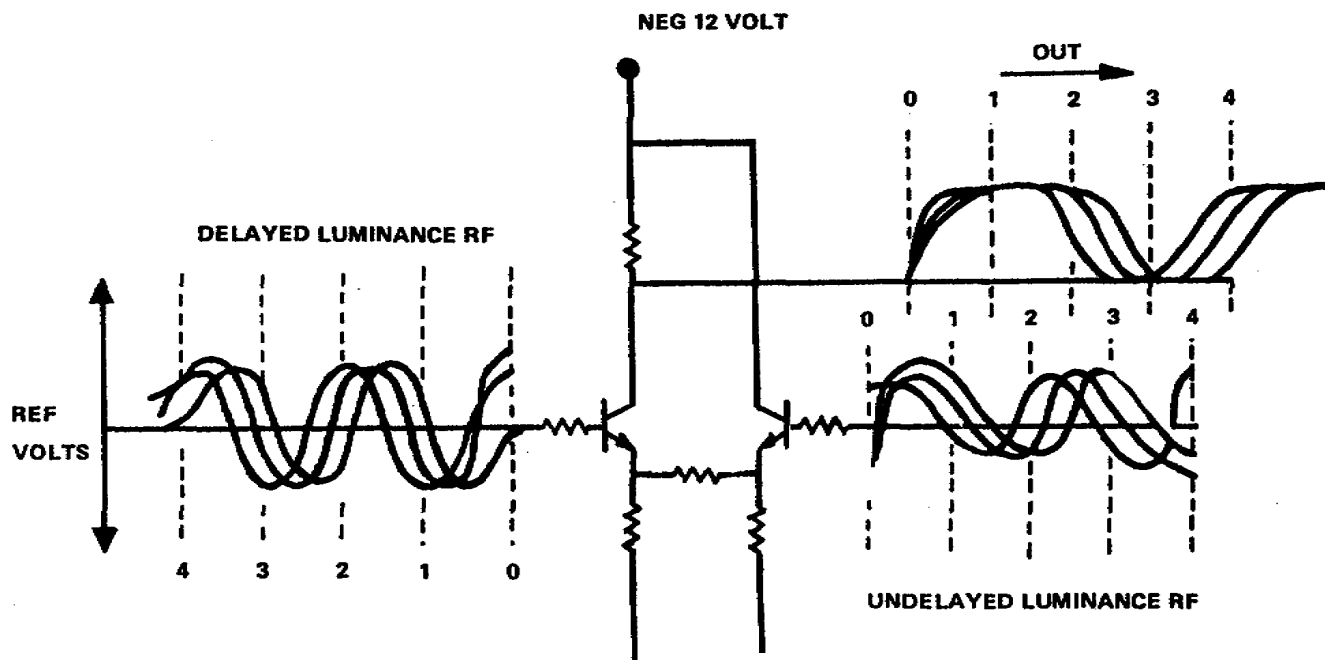

Figure 4-1. Cosine equalizer
1. Refer to Figure 3-4 (fo) at end of lessons. The output of Y-RF OUT BUFFER Q7 (PS-10 Board) is applied to a cosine equalizer circuit on the HF-3 board (fig 4-1). The incoming Y-RF signal is buffered by transistor Q1 and follows two paths, one to the base of Q2 with a delay of 60 nanoseconds and the other undelayed path to the base of Q3. Q2 and Q3 form a differential amplifier that compares the delayed luminance RF with the undelayed fundamental.